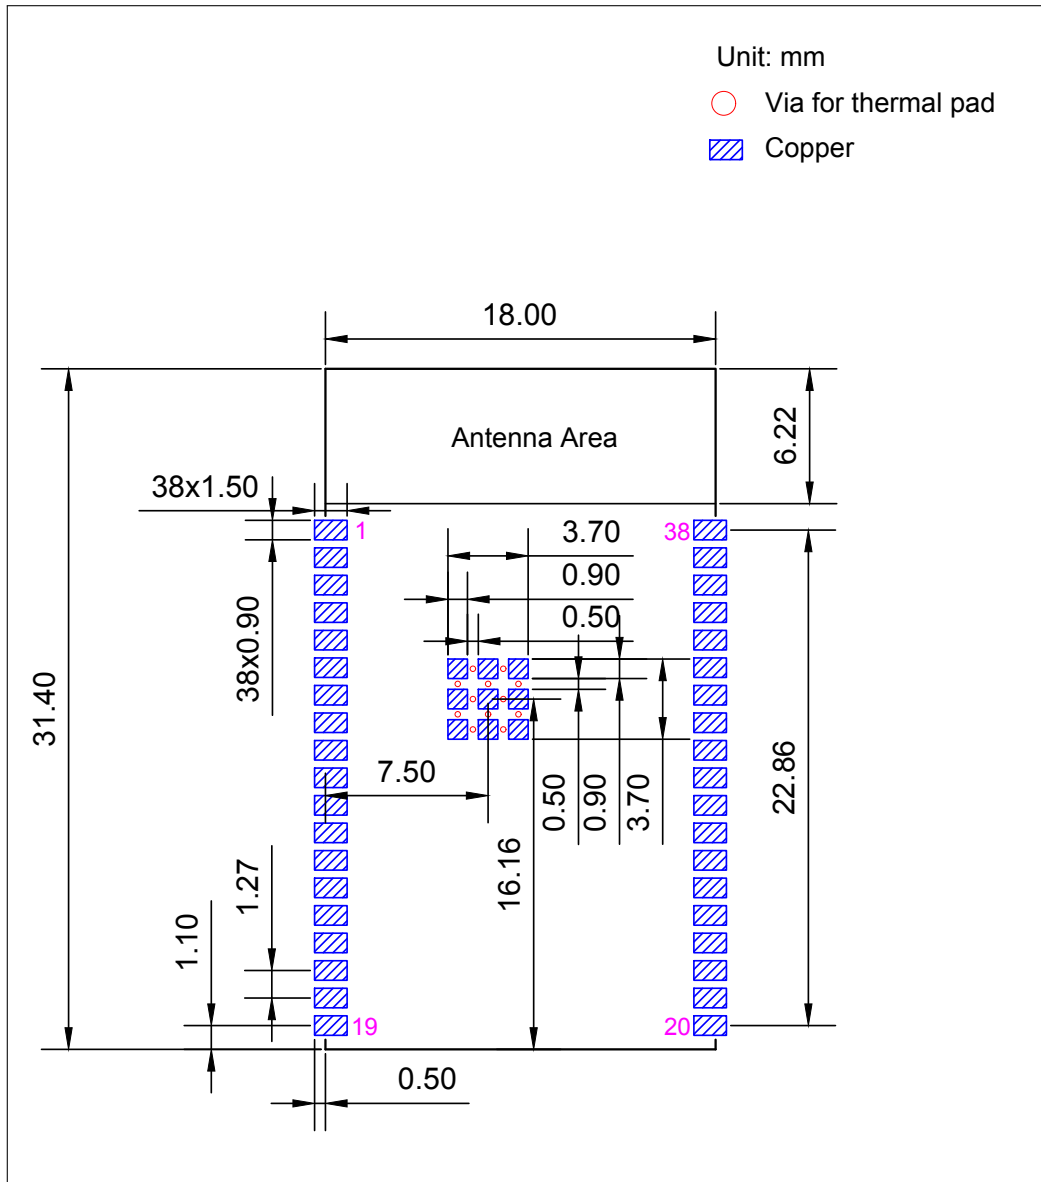

Figure 8: Recommended PCB Land Pattern
- Figures for recommended PCB land patterns with all the dimensions needed for PCB design. See Figure 8 *Recommended PCB Land Pattern*.
- Source files of recommended PCB land patterns to measure dimensions not covered in Figure 8. You can view the source files for ESP32-WROVER-B and ESP32-WROVER-IB with Autodesk Viewer.